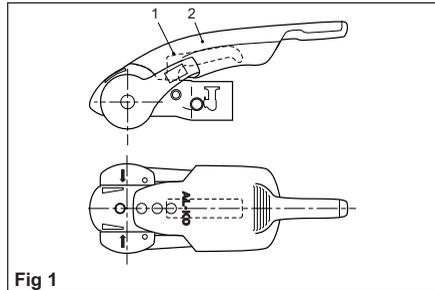

Fig 1
Coupling handle (Fig. 1/Item 1), Stabiliser Lever (Fig. 1/Item 2)
- a) Pass the cable through the attachment point and clip it back on itself (Fig. 1).